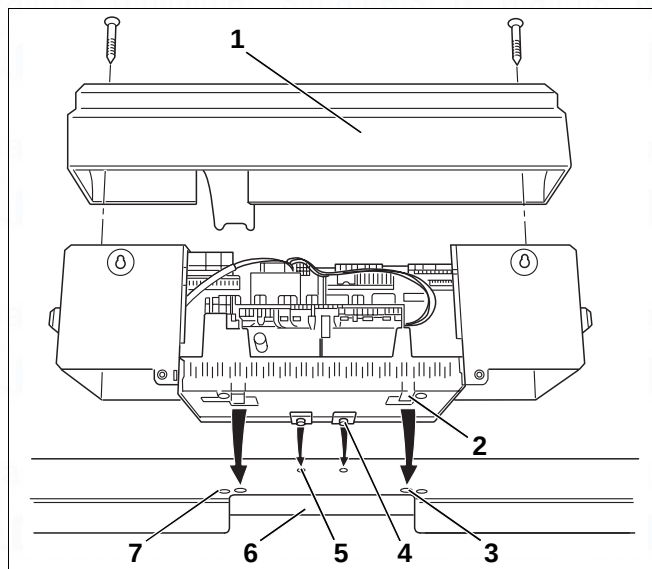
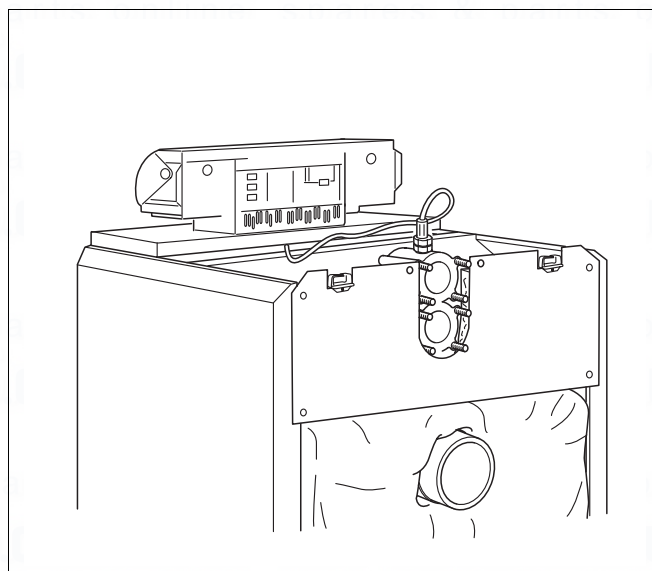

Fig. 43 Installation – control unit
Fig. 48 Boiler with fitted control unit
Fig. 43 shows the control unit and the front cover from the rear.
- ▶ Undo both screws in the terminal cover (Fig. 43, [1]). Lift the terminal cover up and off.
- ▶ Put the control unit in place Fit the control unit at the front by inserting the locking tabs (Fig. 43, [4]) into the oval holes in the front boiler hood (Fig. 43, [5]). Pull the control unit forwards and then tip backwards. The resilient hooks (Fig. 43, [2]) must latch into the rectangular openings at the back of the front boiler hood (Fig. 43, [3]).
- ▶ Screw the base of the control unit on the left and right of the cable entry (Fig. 43, [6]) onto the front boiler hood using two self-tapping screws (Fig. 43, [7]).
- ▶ Screw terminal cover (Fig. 43, [1]) with the two self-tapping screws back into the control unit base (Fig. 48).